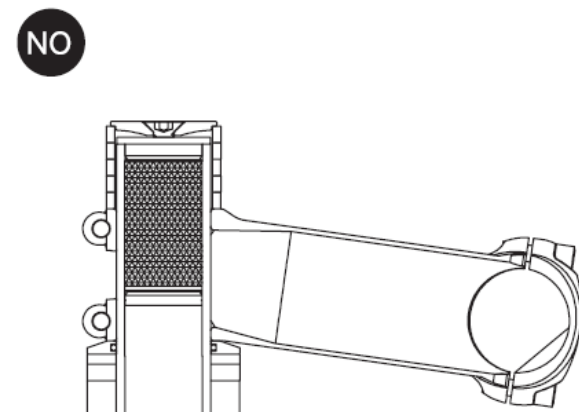

Fig. 5.2.4
**IMPORTANT:** Do not exceed 5 mm with the spacer above the stem (Fig. 5.2.4). The incorrect position of the stem can damage the carbon steerer and the stem structure up to causing serious accidents for the user.